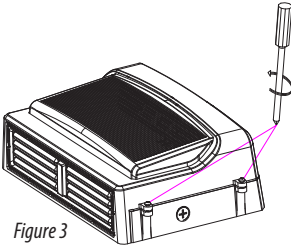

Figure 3
2. Use a screwdriver to remove the screws on both sides. (Figure 3)